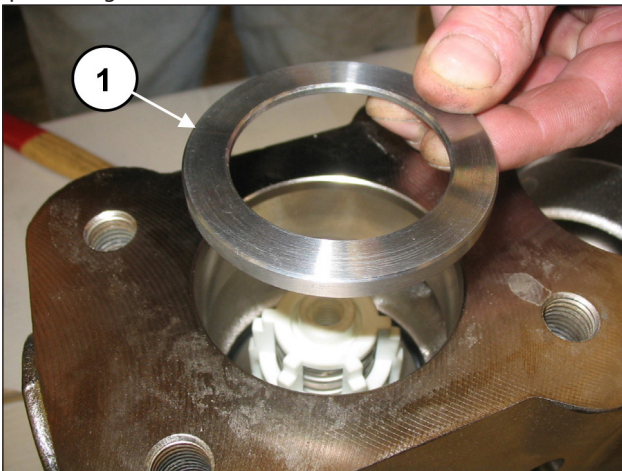
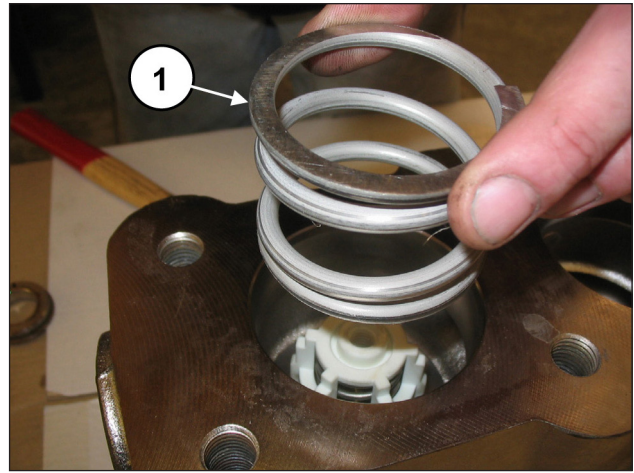

Fig. 102
Fig. 103
Insert the valve housing ring (pos. ①, Fig. 102) and the spring (pos. ①, Fig. 103).